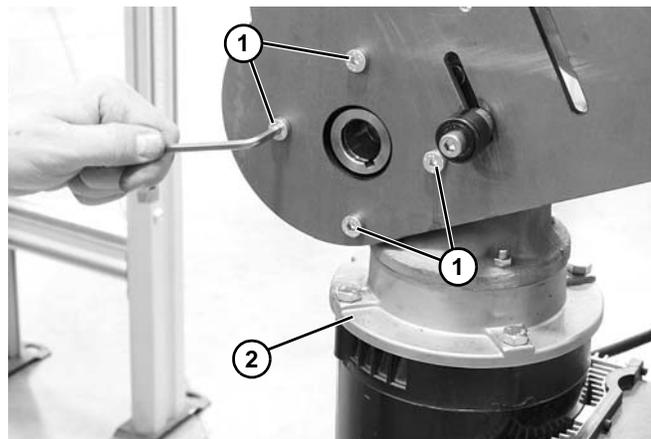

Figure 52
6. Remove four screws (Figure 52, item 1) and drive motor (Figure 52, item 2).